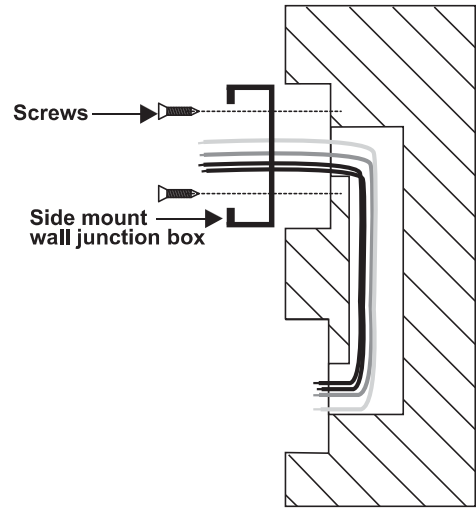

Figure 1
1. Attach junction box securely to building structure. Use provided hardware. **Caution:** Tighten screws well. See Fig. 1.